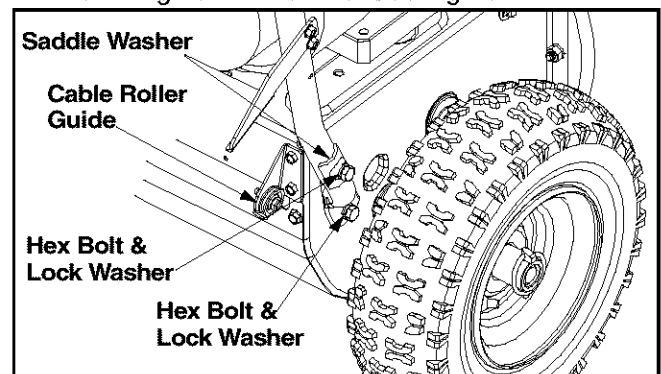

Figure 2
- Insert hex bolt and lock washer through these holes to secure the handle to the snow thrower housing. Do not tighten at this time. See Figure 2.
- Place saddle washer over upper holes on handles and secure to the frame with lock washers and hex bolts. Do not tighten now. See Figure 2.
- Make certain all cables are in the grooves of the cable roller guides in the lower rear of the unit, one on each side. Refer to Figure 2.